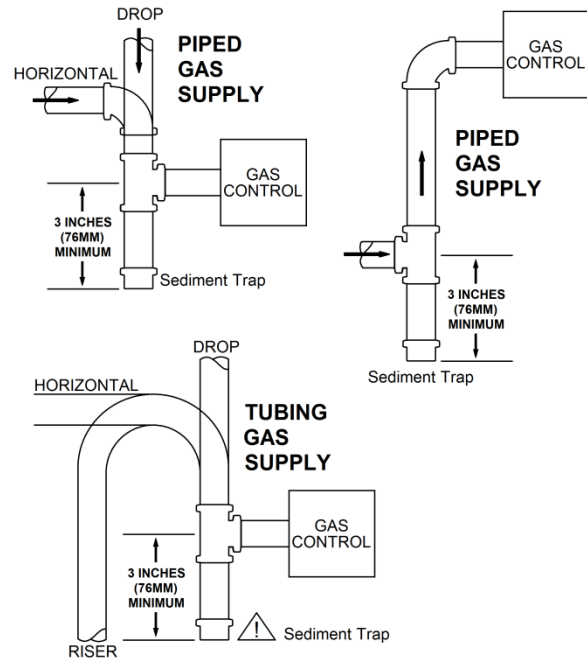

Figure 16 – Sample Gas Supply Sediment Traps
🔥 NFPA Code and Hearthstone require the use of a dedicated sediment trap just upstream of the unit. Damage to the valve, or other components due to the lack of a sediment trap are not covered by warranty (see figure 16).
- Install the sediment trap (where required) in the gas supply line to prevent contamination of the gas valve (see figure 16).